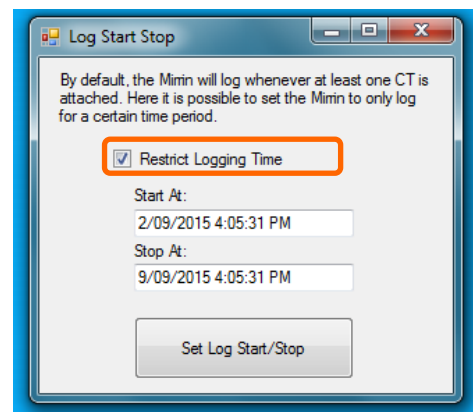

Figure 2.6.2
Step 2: To enable this feature, check (tick) the 'Restrict Logging Time' button as shown in figure 2.6.2.